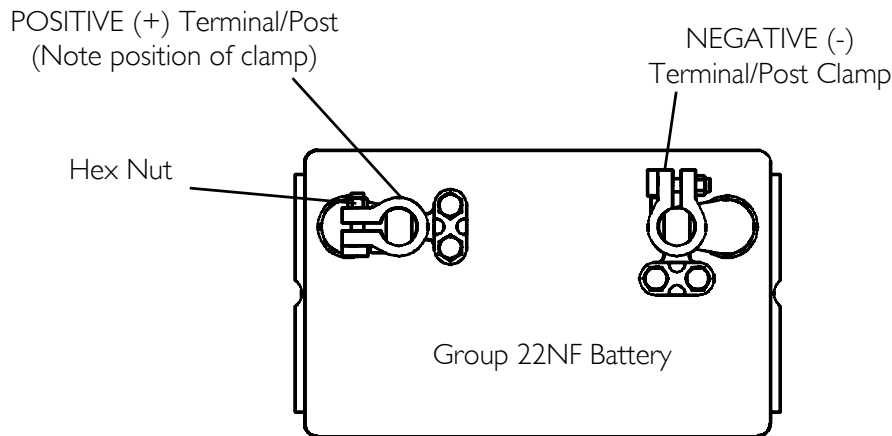
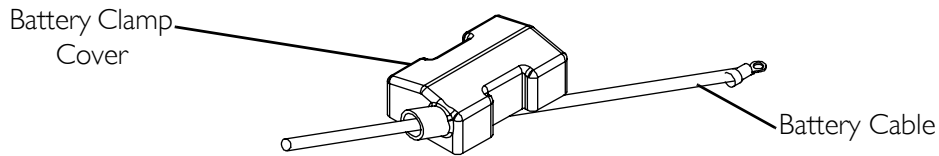

FIGURE 12.7 Connecting Battery Cables - Battery Clamp Method
FIGURE 12.8 Installing Battery Clamp Cover
- Dual Group 22NF Batteries without Mounting Holes in the Terminal(s)/Post(s) - Use battery clamp method. Refer to FIGURE 12.7, FIGURE 12.8 and FIGURE 12.9.
The battery clamp of the **POSITIVE (+)** battery terminal/post **MUST** be mounted in the position shown in **FIGURE 12.7**, otherwise the battery box top cannot be installed properly.
NOTE: For this procedure, refer to FIGURE 12.7, FIGURE 12.8 and FIGURE 12.9.
1. Perform one (1) of the following:
- If the battery clamp of the POSITIVE (+) battery terminal/post is NOT mounted in the orientation shown in FIGURE 12.7, perform the following:
- iii. Reposition the battery clamp on the POSITIVE (+) battery terminal/post as shown in FIGURE 12.7.
- If the battery clamp on the POSITIVE (+) battery terminal/post is positioned as shown in FIGURE 12.7, proceed to STEP 2.
2. Install battery clamp covers onto battery cables (FIGURE 12.8) -